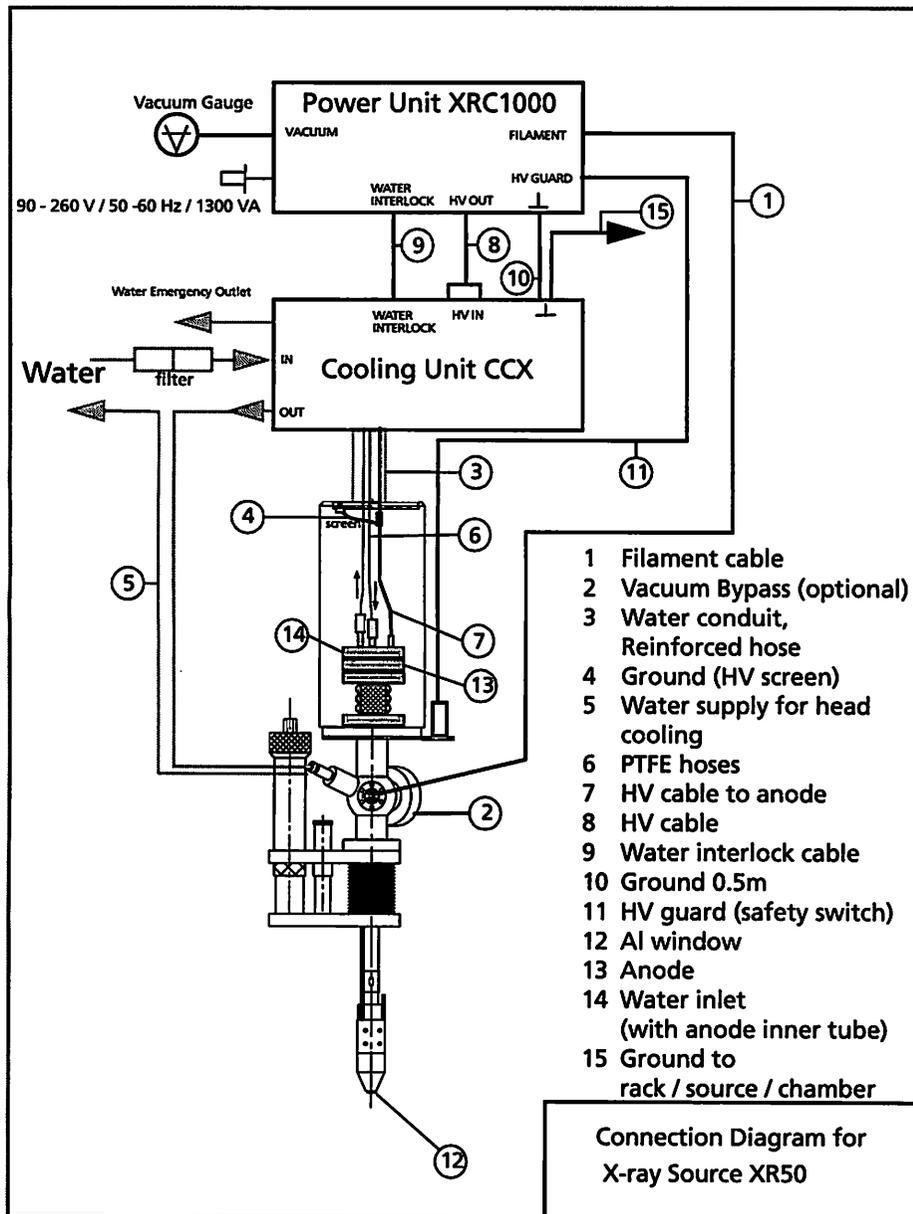
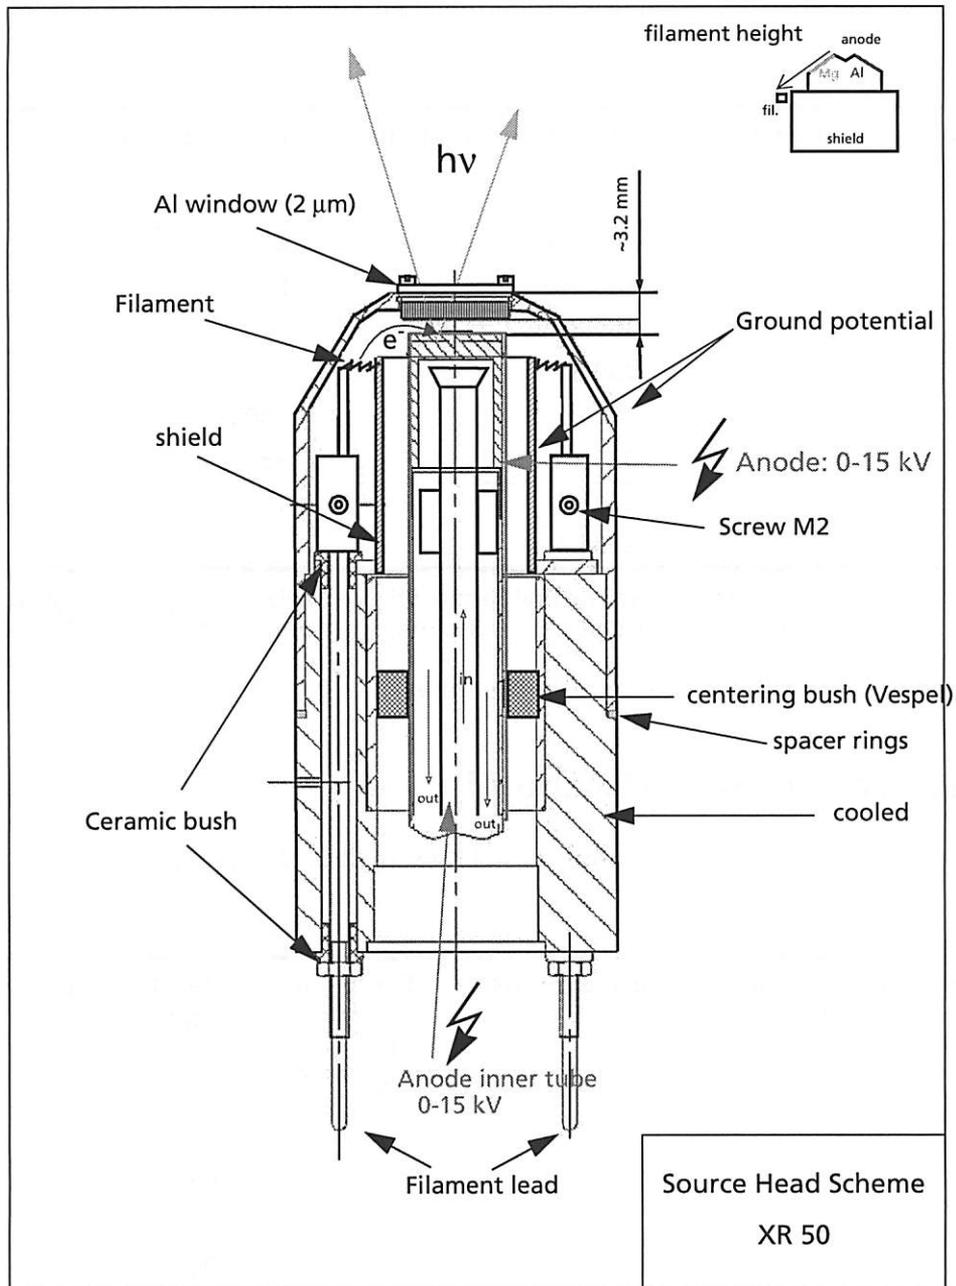

Figure 10
Figure 11
- Is the anode centered or misaligned? The Cu cathode cap (see figure 11," page 37) must be removed. If damaged or malfunctioning parts are identified, replace or refurbish these components otherwise valuable experimental time will be lost!
When exchanging of the anode it is not necessary to remove the X-ray source from the vacuum system. Refer to figure 10 and figure 11 in section 6.1 .
Remove all connections of the source (see "Bakeout of the X-Ray Source" on page 24) and remove the X-ray source. Refer to figure 10, "The Connection Diagram for the X-Ray Source XR-50," page 36 and figure 11, "Source Head XR-50," page 37 and to the figures below.
5. Insert the new cathode into the supporting pins until the uppermost part of the filament does not see the surface of the anode (see figure 11," page 37, right corner). Normally it is ok if the height of the new filament is the same as the old one.